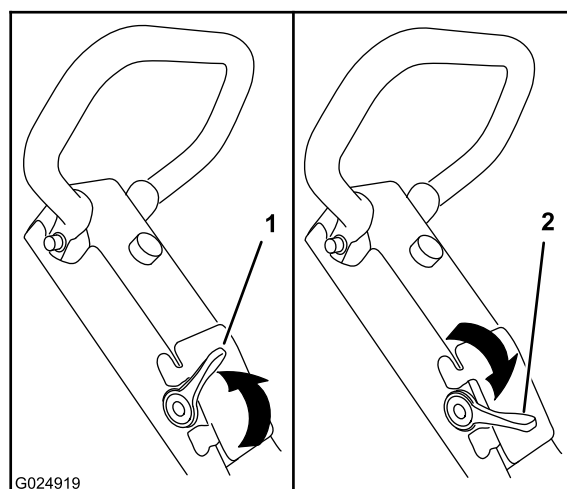

Figure 11
1. Set the throttle to the Slow position (Figure 11).
6. Move the throttle lever to the fast position (Figure 11).
1. Set the throttle to the slow position (Figure 11).
3. Move the throttle lever to the Fast position (Figure 11).
1. Move the throttle-control lever to the Slow position (Figure 11).